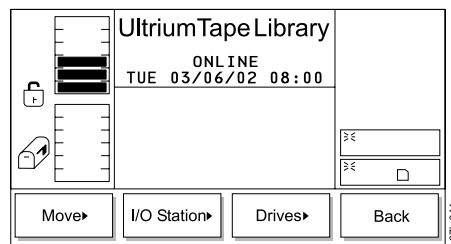

Figure 150. Command Menu
1. From the Main Menu's initial screen, press the button below the **Command** softkey. The Command Menu displays (see Figure 150).